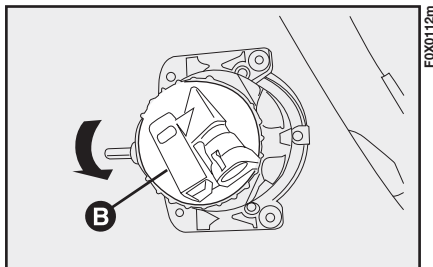

fig. 132
- rotate cover B-fig. 132 anticlockwise;